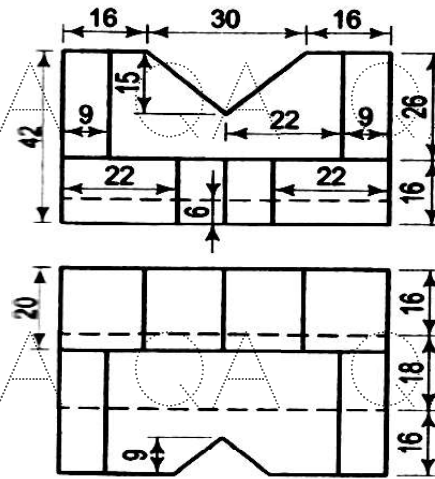

Figure 1
9. Draw the isometric view of given casting for the following figure 1. All dimensions are in mm. [15]